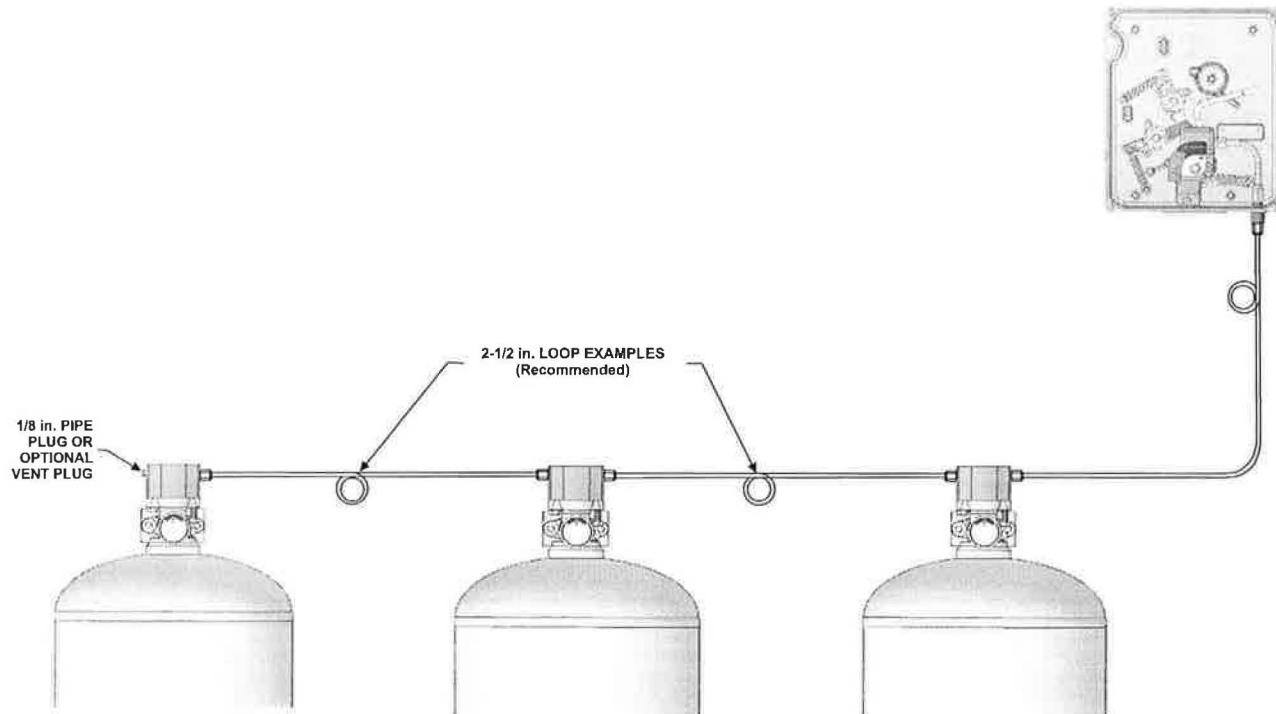

Figure 4-12. Example of Copper Tubing Loop Method
8. Install 1/8 NPT (M) x 1/4 copper tubing adapters. Compression type adapters are permissible.
9. Measure and install the 1/4 O.D. x 0.031 wall thickness copper tubing. A 2-1/2 inch (64 mm) loop between each cylinder and on the inlet tubing is recommended, but not required. See Figure 4-12. Ensure that each connection is secure.